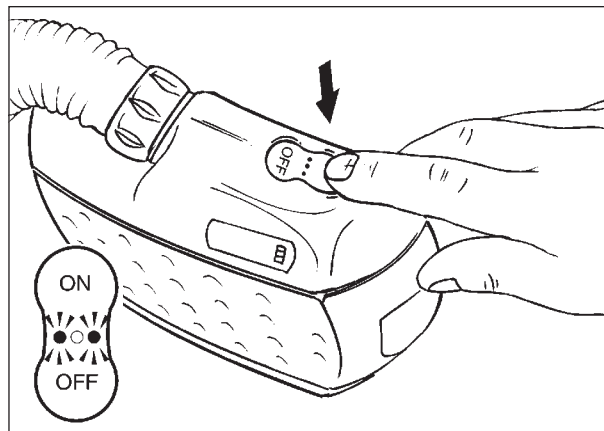

Figure 5:
- 6) With the airflow indicator in a vertical position, turn the Adflo® Turbo Unit on (see Figure 5). All three LEDs located on the ON/OFF switch will turn on for approximately one second; then the two green LEDs should remain on.
- 6) Turn on the Adflo® Turbo Unit (see Figure 5).